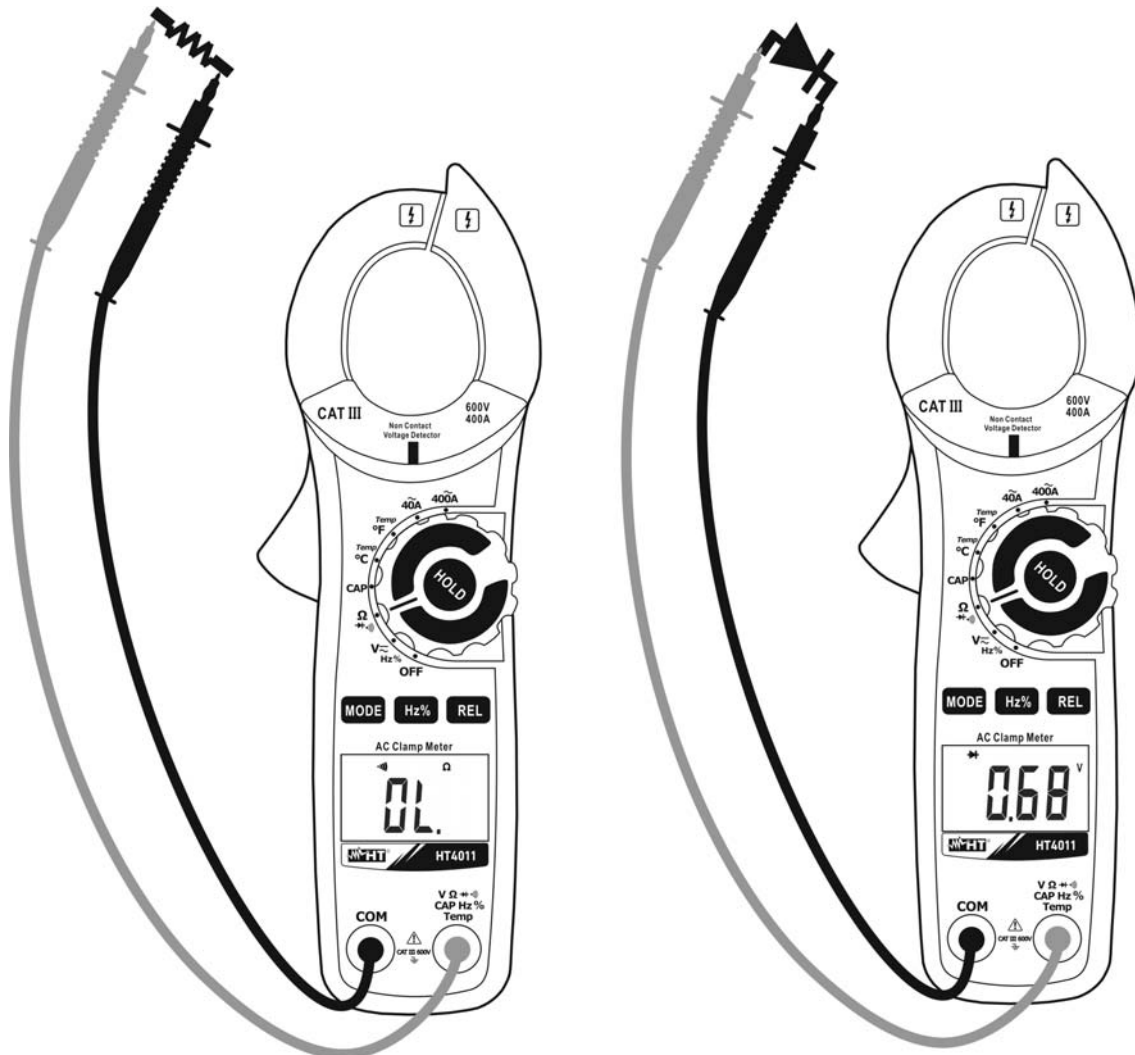

Fig. 7: Use of the clamp for continuity test and diode test
3. Insert the red cable into input terminal **VΩHz%Temp** and the black cable into input terminal **COM** and carry out the continuity test of the object to be measured (see Fig. 7– left side). An buzzer sounds when the measured value of resistance is lower than 30Ω
5. Connect the red lead to the anode of the diode and the black lead to the cathode in case direct polarization measurement is carried out (see Fig. 7 – right side). Invert the position of the leads in case reverse polarization measurement is carried out.